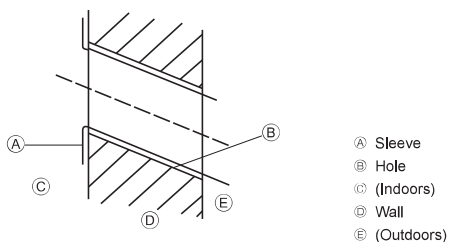

Fig. 3-4
- Ⓐ Mount board ①
3.2.2. Drilling the piping hole (Fig. 3-4)